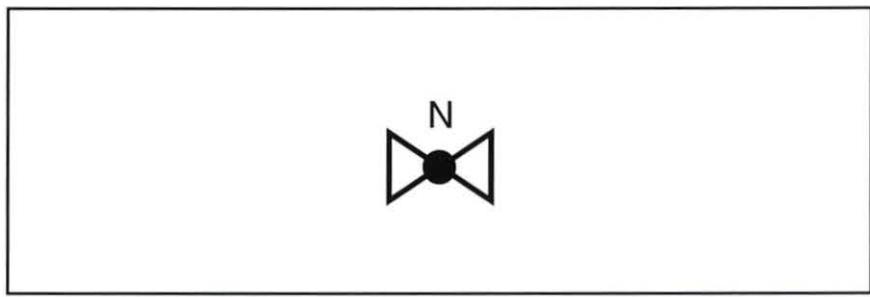

Figure 28. Valve Symbol
6. Determine the type of valve or actuator symbol depicted in figure 28.